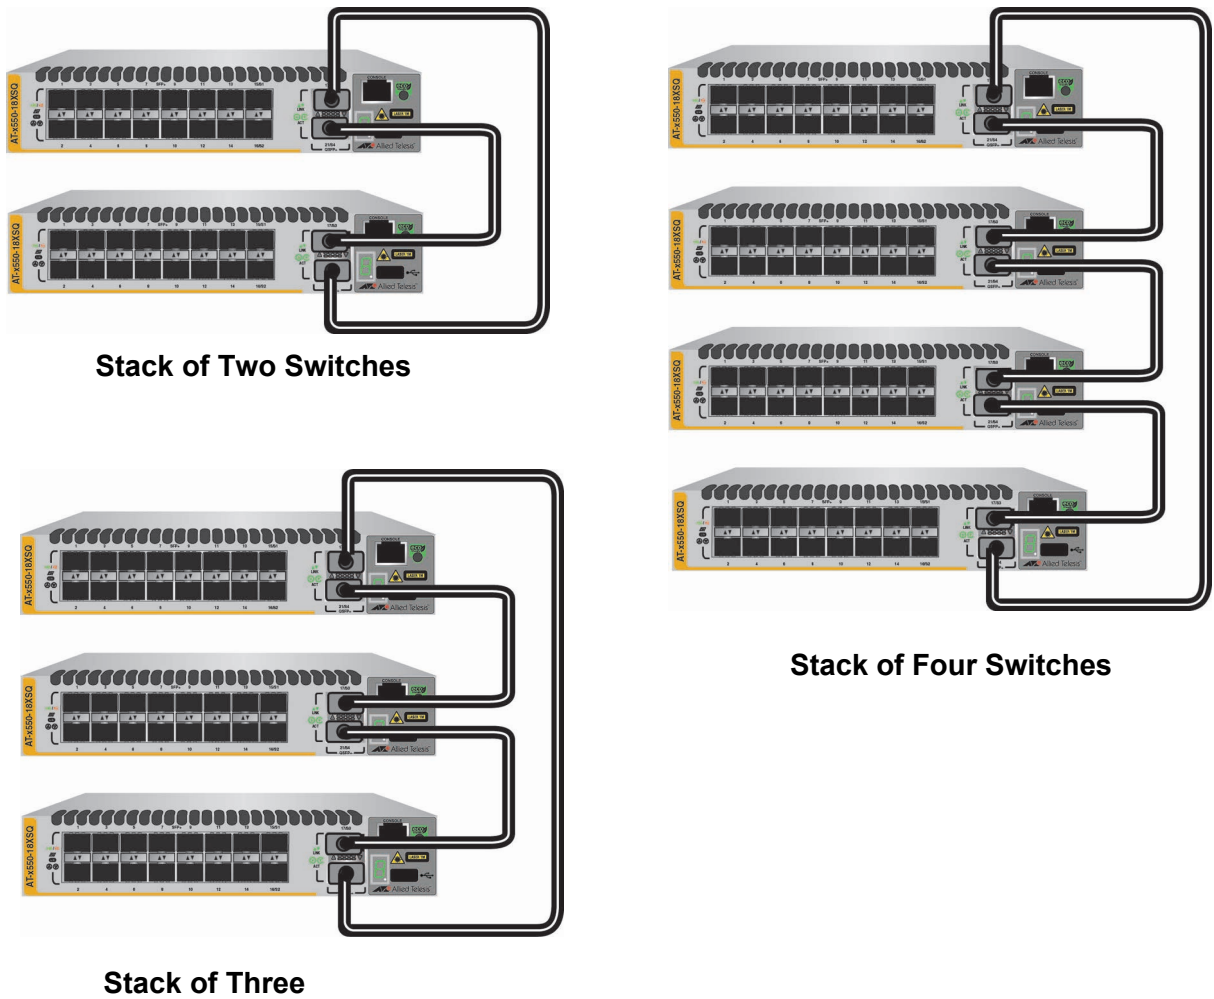

Figure 15. Cabling QSFP+ Ports 17 and 21 for a Stack Trunk
- ❑ The cables of 40Gbps QSFP+ stack trunks must cross over to different slots 17 and 21 on the switches. That is, the connection of the transceiver in slot 17 must connect to the transceiver in slot 21 in the next switch. Figure 15 shows the correct wiring configurations for stacks of two, three, and four switches.